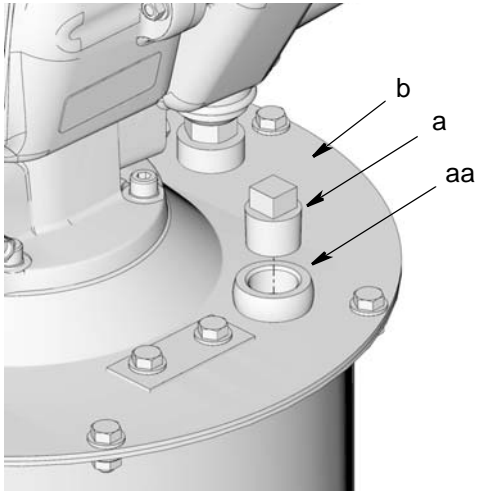

**FIG. 16**
**Low Level Range** (FIG. 16) - Red rod (R) is partially covered by the green tube (G). Some red is partially visible at the top of the sight glass. This appearance indicates that the lubrication supply container is approaching the low level mark and needs to be refilled.